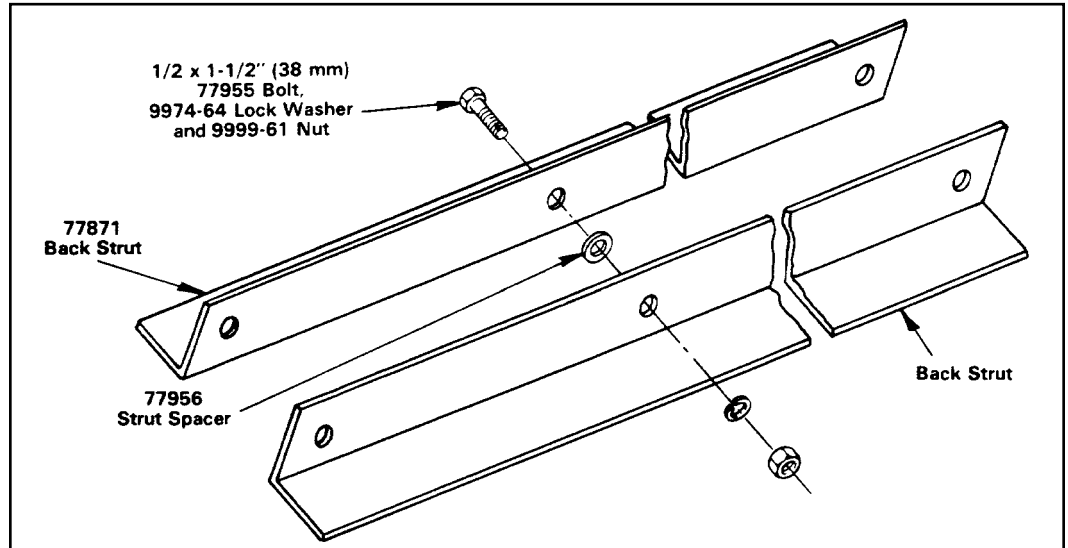

Figure 36
Pre-assemble corresponding back strut assembly pairs (16) as shown in Figure 36 using 1/2 x 1-1/2 (38 mm) bolts, 77956 strut spacers, lockwashers and nuts. Do not tighten.